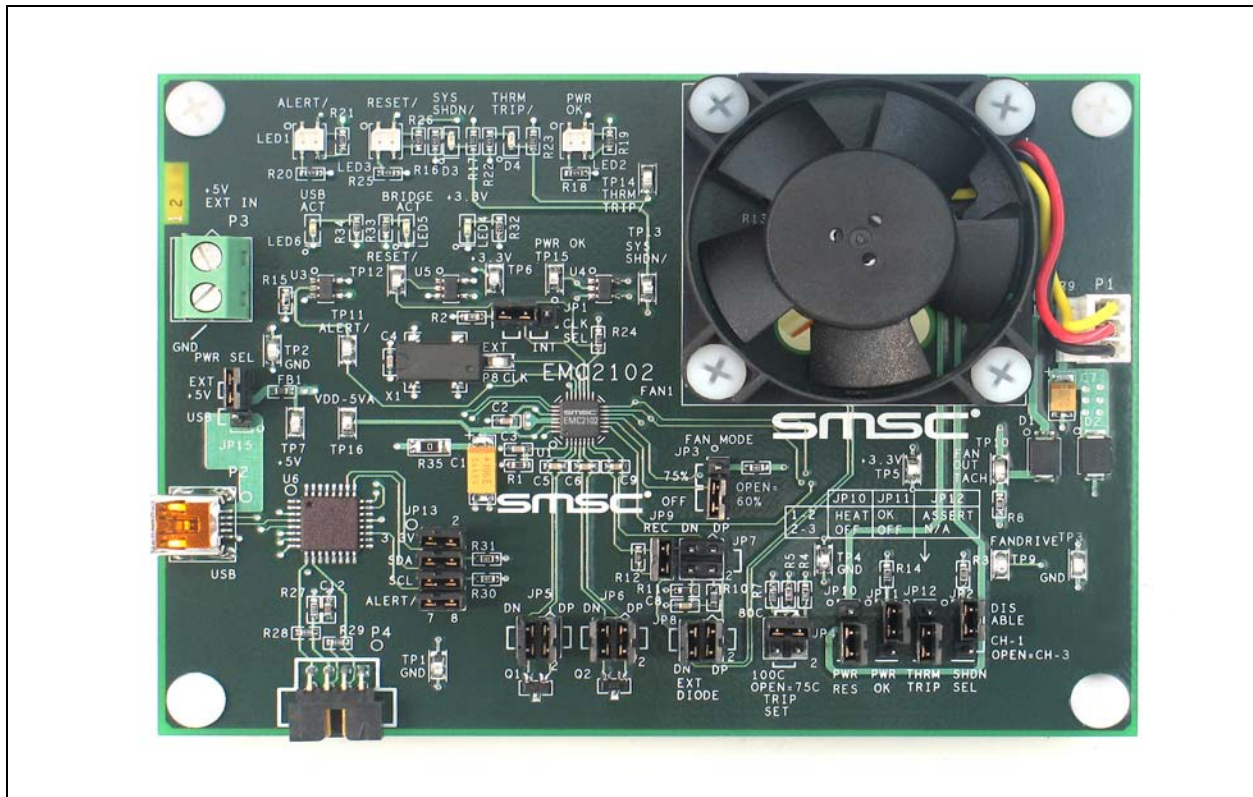

Figure 4.2 EVB-EMC2102 Board
- An EMC2102 evaluation board (EVB-EMC2102) with on-board 5V DC fan (Figure 4.2)